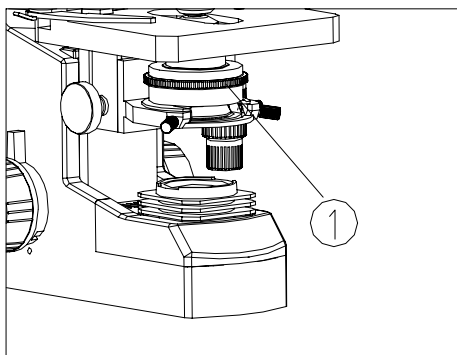

Fig.20
3.3.4 Condenser Adjustment (Fig.20)
3.3.5 Aperture Iris Diaphragm Adjustment (Fig.20)